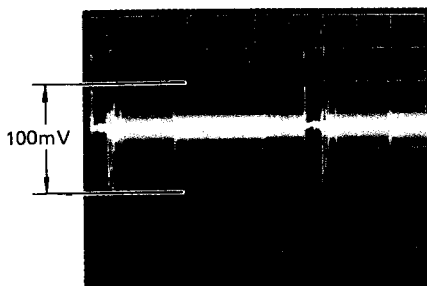

Fig. 5-6-7
- o Trigger the oscilloscope at H rate (Use TP9 (BL), Deflection board).
- o Adjust VR17 (V GAIN) so that the left side of the V edge signal becomes 100mVp-p. (Fig. 5-6-7)